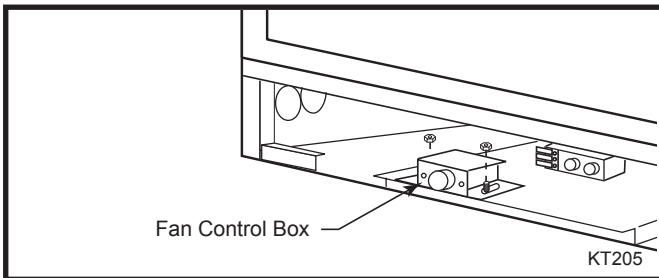

Fig. 49 Remove fan control box.
- a. Remove the Fan Speed Control Box (Fig. 49)